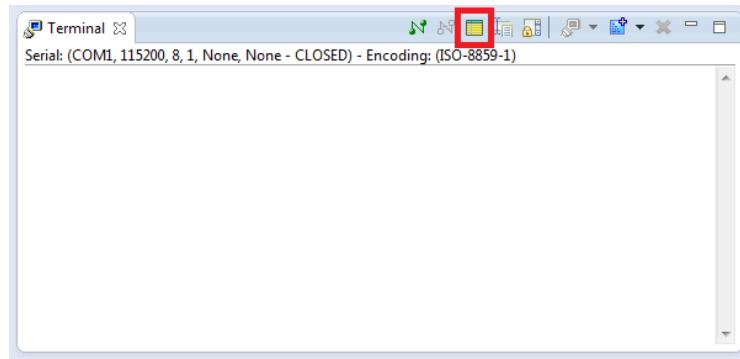

Figure 13-8. ARM DS-5 Serial Terminal
66. Although we can continue to use the “minicom” program as we previously did in Figure 13-5, we will use the built-in serial terminal available in *ARM DS-5* to have all development windows in one area. Go to “Window > Show View > Other... > Terminal > Terminal” to open *ARM DS-5*’s the built-in serial terminal. You should see the terminal shown in Figure 13-8.